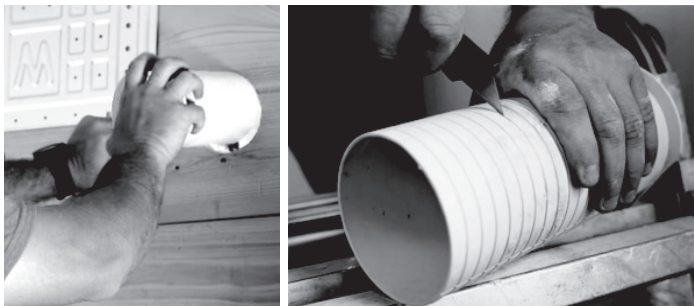

Fig. 5.4
3. Insert the protective wall sleeve through the hole of the inside wall, noting the amount it protrudes from the exterior wall. Then, trim the excess, with a utility knife or a saw, to make it flush with the exterior wall. This will protect the edges of the hole and help seal it when you finish the installation process (**See Fig 5.4**).